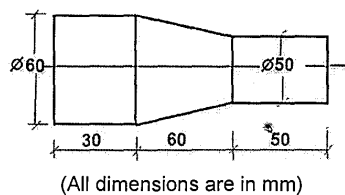

Fig. 1b
b) Write a CNC turning program for following component shown in Figure 1b. Assume suitable data. [9]